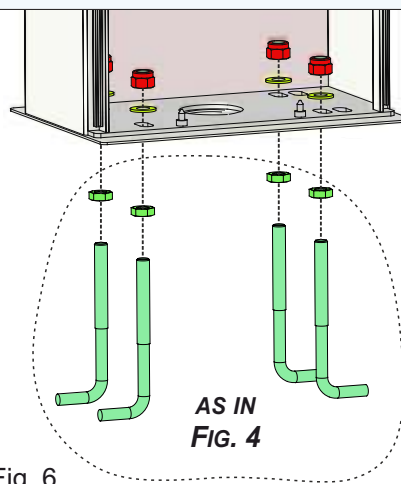
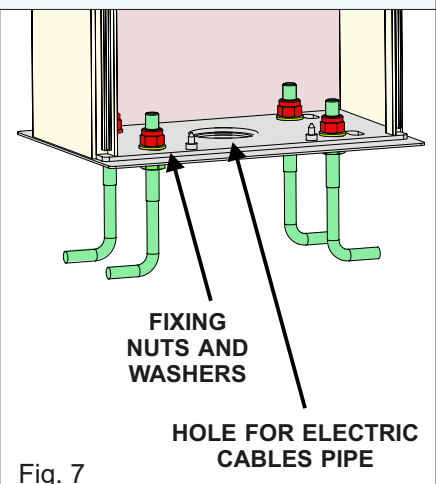

Fig. 6
Fig. 7
3.3. Fix the barrier housing to the foundation plate using the nuts and washers provided - Fig. 6 and Fig. 7